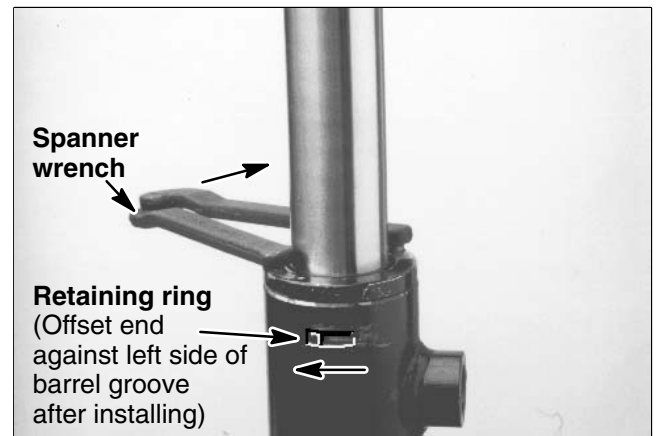

Figure 46
6. Secure head in tube by installing retaining ring (item 6). Align key slot in head with the access groove in the tube. Rotate head clockwise as far as the retaining ring will allow. The offset end of the retaining ring will be against the left side of the tube groove as shown in Figure 46.